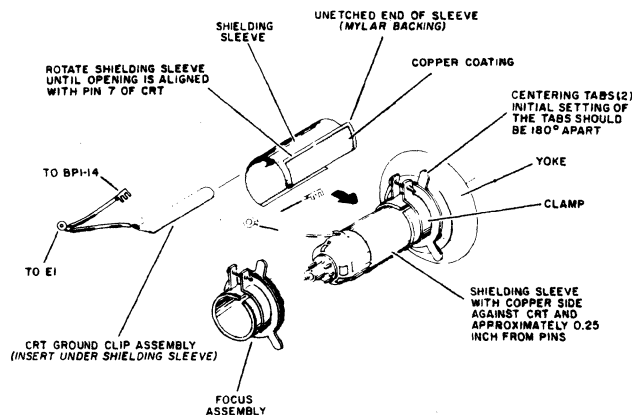

Figure CRT24. Positioning Shielding Sleeve
- 10) Position sleeve approximately as shown in figure CRT24, but with opening straight down and aligned with pin 7 of crt tube socket.